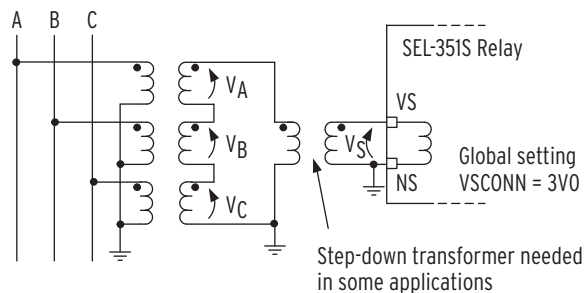

Figure 6 Broken-Delta Connection to SEL-351S Voltage Input VS/NS
Alternatively, voltage input VS/NS can be connected to a broken-delta voltage source, as shown in *Figure 6*. This broken-delta connection provides a zero-sequence voltage source (3V0)—useful when zero-sequence voltage is not available via the three-phase voltage inputs VA, VB, VC, and N, (e.g., when open-delta connected voltage is applied to the three-phase voltage inputs—see *Figure 5*). Zero-sequence voltage is used in zero-sequence voltage-polarized ground directional elements and in the directional protection for Petersen Coil grounded systems.
- Broken-delta zero-sequence voltage (see *Figure 6*)